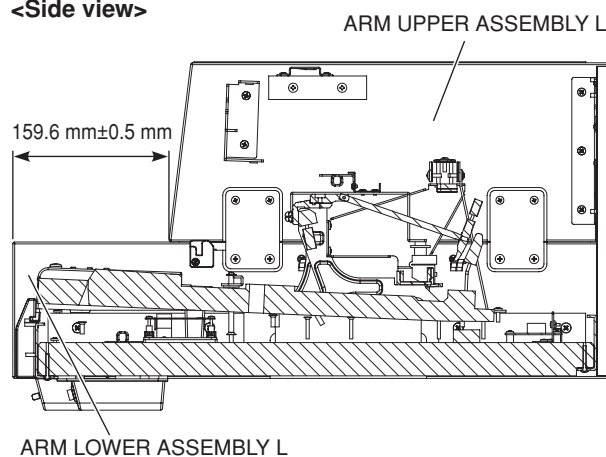

Fig. 5
- 15) Install the arm upper assembly L. At this time, make sure the distance between the front of the arm lower assembly L and the front of the arm upper assembly L is $159.6 \text{ mm} \pm 0.5 \text{ mm}$. (Fig. 5)